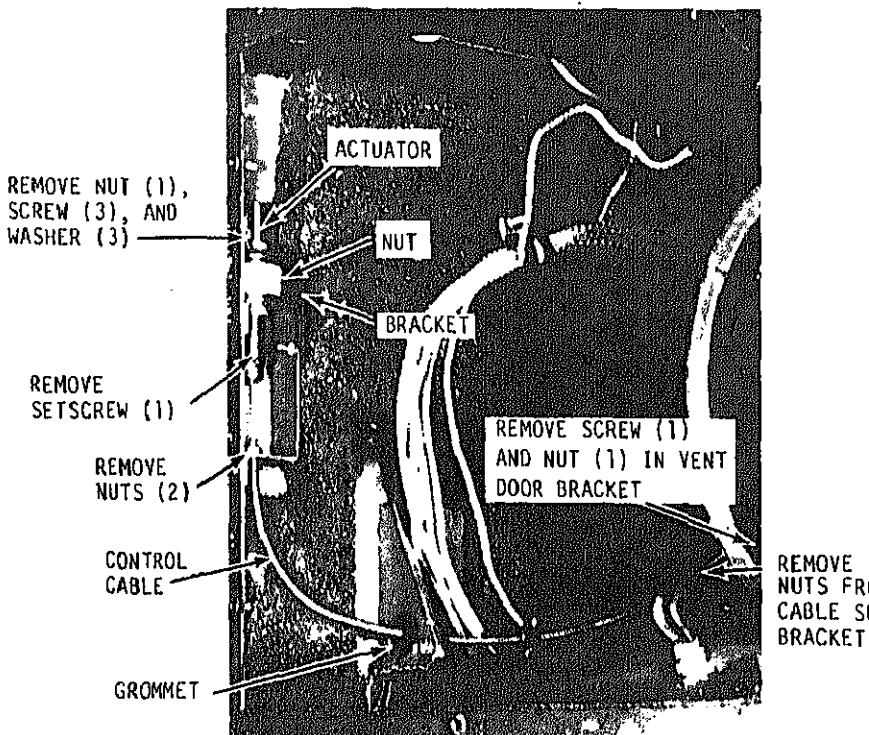

Figure 4-23. Vent damper actuator removal and installation.
(2) Refer to figure 4-23 and disassemble the vent damper actuator and control assembly as follows:
(1) Refer to figure 4-23 and install the vent actuator as follows: